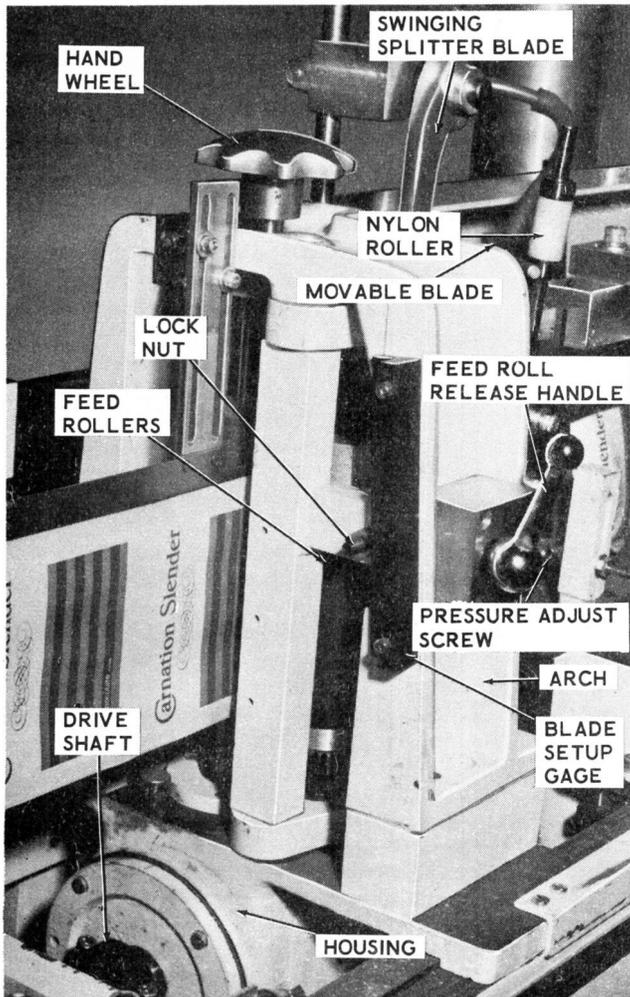
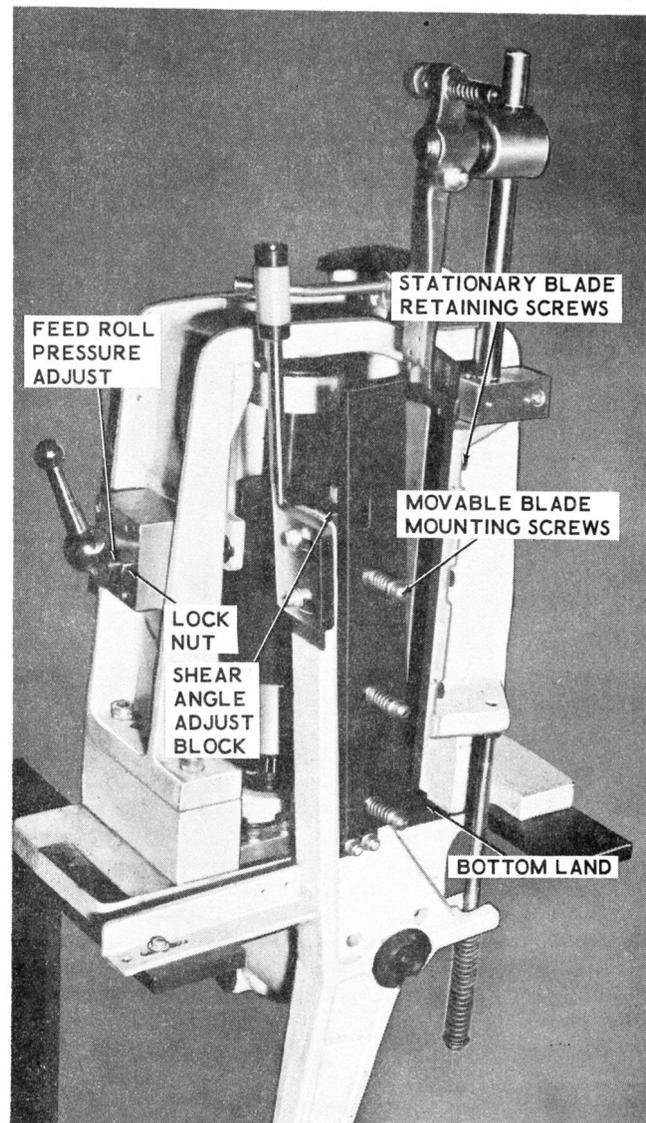
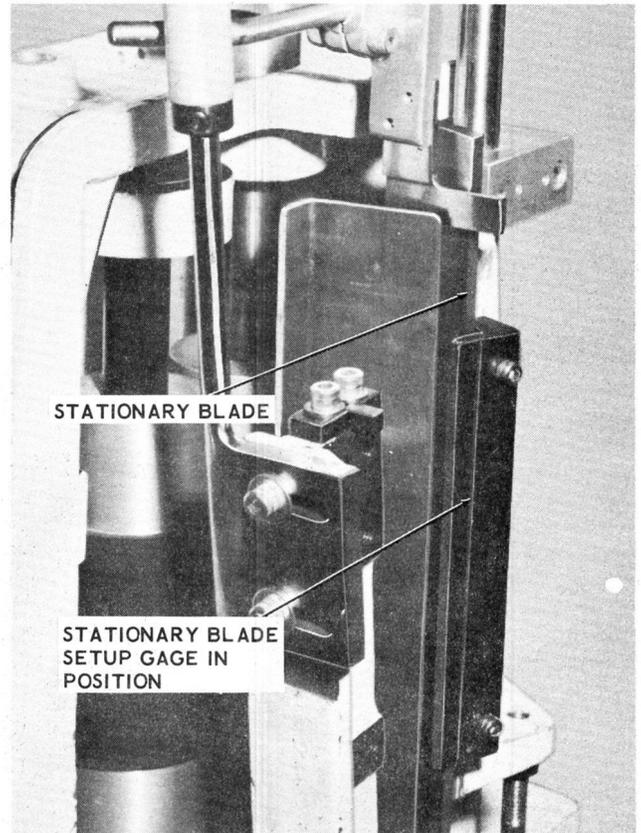

Figure 3-27. Feed Roll and Cutoff Mechanism
Figure 3-28. Installing Cutoff Knives
Figure 3-30. Installing Cutoff Knife Gage
The feed roll and cutoff mechanism (Figure 3-27) advances the web past the cutoff knife into the pouch clamp and cuts the web to produce a pouch of the correct width.
The feed roll pressure rarely requires adjustment. This pressure is adjusted by loosening lock nut (Figure 3-27) and turning the setscrew. The pressure that the feed rolls apply to the web is adjusted by loosening lock nut (Figure 3-28) and turning the setscrew clockwise until the spring pressure is felt. After feeling spring back pressure, turn the setscrew three complete turns. Tighten lock nut after setscrew adjustment has been made.
- a. Attach stationary blade to feed roll casting with three screws (Figure 3-28). Do not tighten screws. Remove setup gage (Figure 3-27) from its storage position on front side of feed roll casting. Attach gage with its two mounting screws to holes provided in casting near stationary blade (see Figure 3-30). Slide stationary blade until cutting edge is against gage and tighten the three stationary blade mounting screws. Detach gage and return to stored position.
b. Jog the machine until movable arm is wide open. Attach movable knife blade to arm using three spring loaded screws (Figure 3-28). The bottom land of the
d. When the blades are open, the angle of shear should be sufficient to allow the web proper clearance between the blades. This is accomplished by loosening two socket screws (Figure 3-28) and moving the shear angle adjusting block. Tighten the two screws after adjustment.